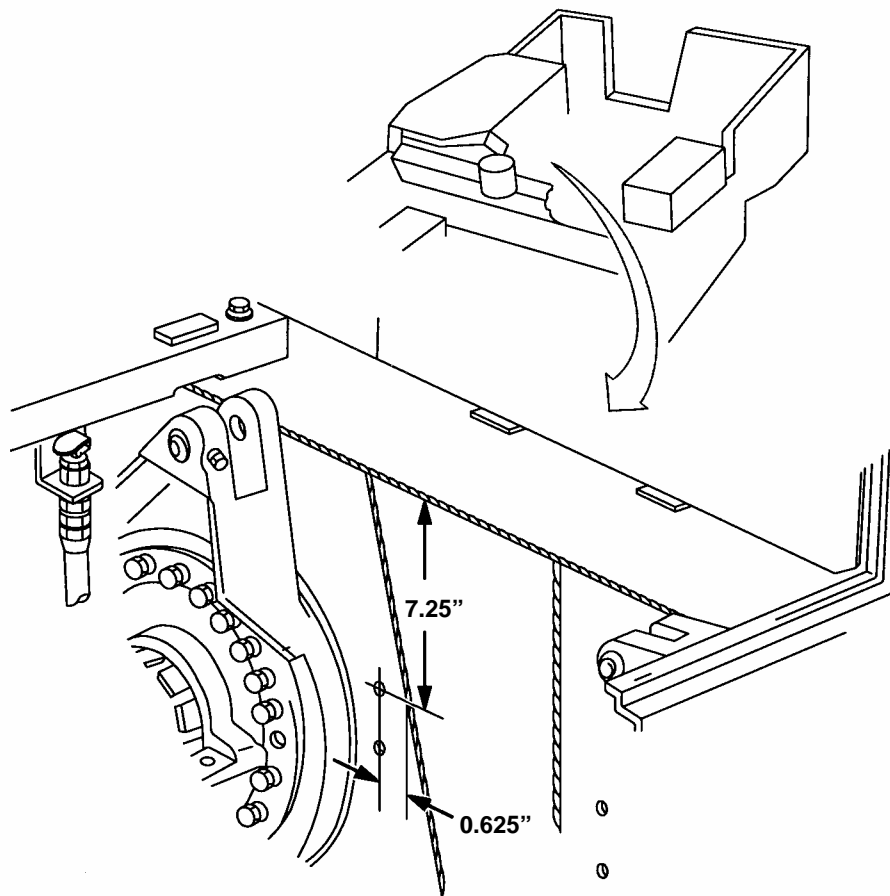
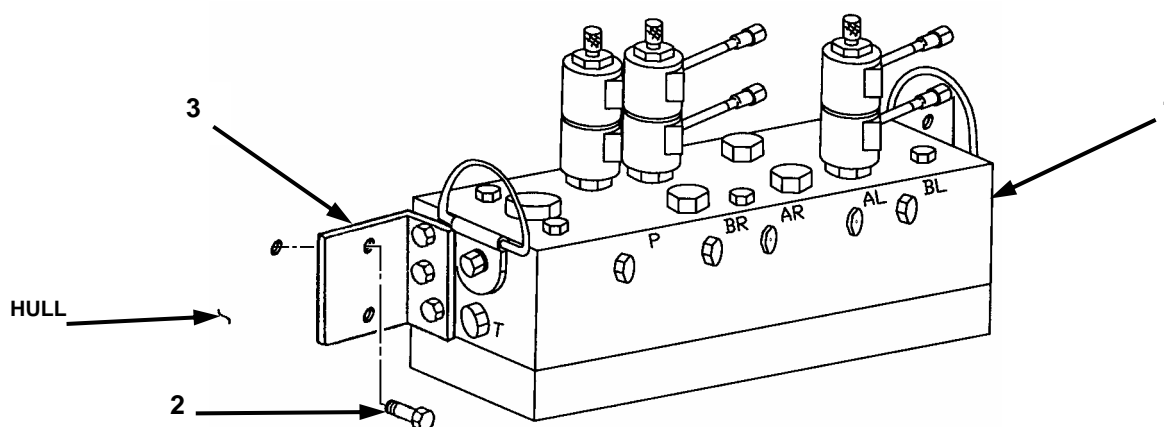

Figure 2-18. Manifold Mount Holes.
Figure 2-19. Manifold Mounts.
11. Drill 0.421 inch (10.693 mm) hole (Figure 2-18) in hull and cut threads using 1/2" – 13 tap.
12. Use suitable lifting device to lift front manifold mount (Figure 2-19, 3) and track and blade manifold 12491612 (1) to hole (Figure 2-18) in hull wall and attach with screw B1821BH050C100N (Figure 2-19, 2).
13. Use suitable leveling device and level track and blade manifold (1). Mark remaining three holes using front and rear manifold mount holes as guides.
14. Remove screw (Figure 2-19, 2) and track and blade manifold (1), retain part for future use.